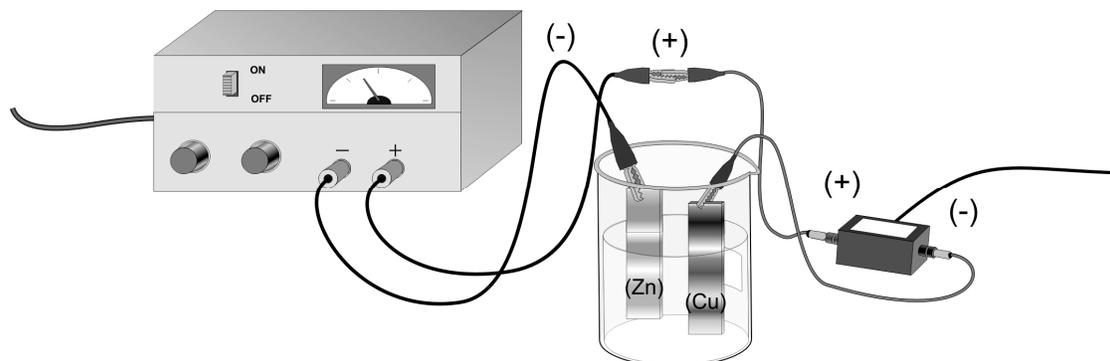

Figure 2: Electrochemical cell using a power supply and Current Probe
- Use connecting wires, with alligator clips, to connect the DC power supply, Current Probe, and the two metal electrodes to be used in the electrochemical cell (see Figure 2). Do not place the electrodes in the cell until Step 9. **Important:** Be careful when handling the electrodes. Do not allow the electrodes to touch each other.